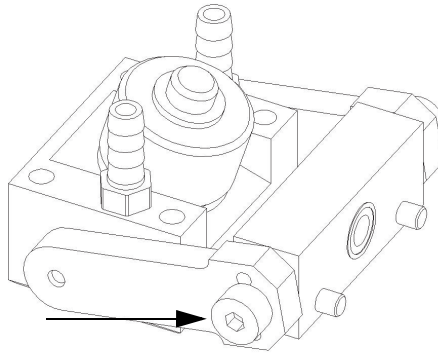

Figure 2-27 The screw that holds the yoke parts together
7. Using a hexagonal key, remove the screw that holds the yoke parts together (see Figure 2-27 on page 44).